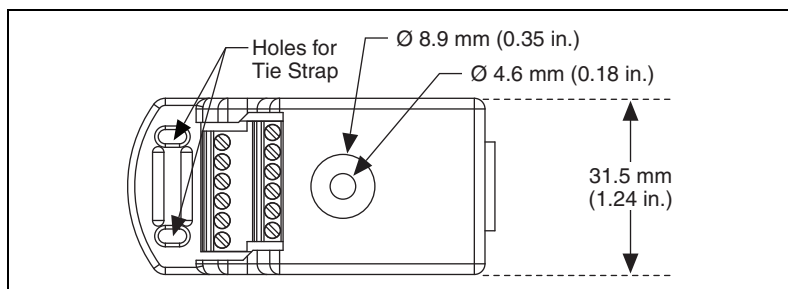

Figure 3. NI 9949 Dimensions and Hole Clearance
- Plastic tie strap for strain relief wrapped around the two front holes, as shown in Figure 3.
- M4x20 screw, or other hardware that fits in the 8.9 mm (0.35 in.) outer clearance hole and 4.6 mm (0.18 in.) inner clearance hole, as shown in Figure 3.